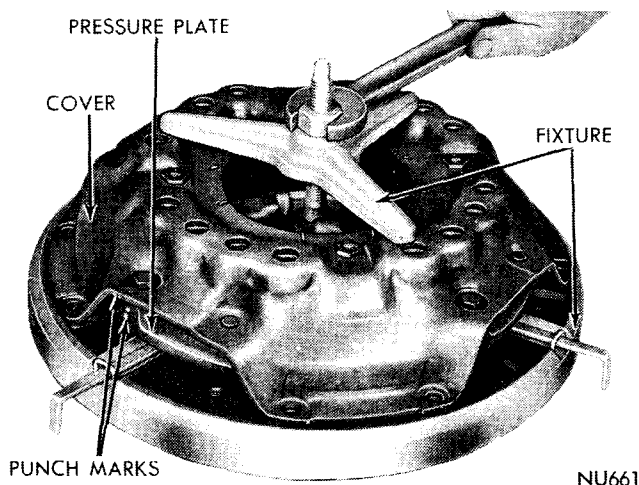

Fig. 5—Cover and Pressure Plate Fixture
(3) Place springs on pressure plate and lever return springs in cover. Lay clutch on top of pressure plate (Fig. 5) and assembled parts.